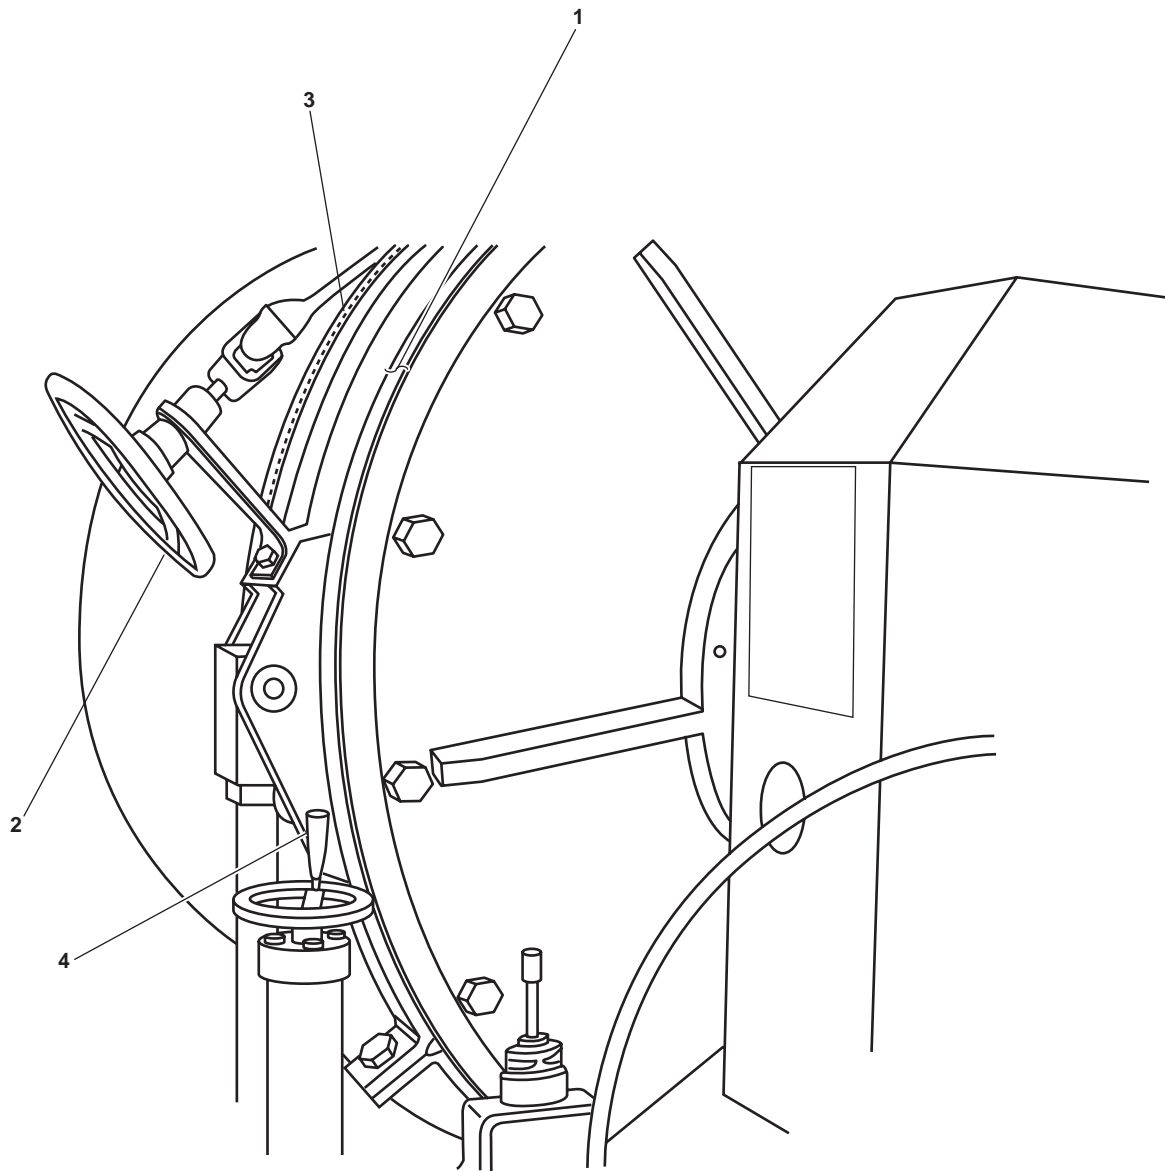

Figure 1. Brake Assembly
1. Tighten the clutch brake (figure 1, item 1) by turning the clutch brake hand wheel (figure 1, item 2) in the clockwise direction. A force of 25 lb-ft (33.9 Nm) is sufficient to provide enough friction on the clutch brake to drive the towing machine under normal loads.
2. Loosen the clutch brake (figure 1, item 1) by turning the clutch brake hand wheel (figure 1, item 2) in the counterclockwise direction.
1. Loosen the auxiliary brake (figure 1, item 3) by turning the auxiliary brake hand wheel (figure 1, item 4) in the counterclockwise direction.
2. Tighten the auxiliary brake (figure 1, item 3) by turning the auxiliary brake hand wheel (figure 1, item 4) in the clockwise direction until it is hand tight.